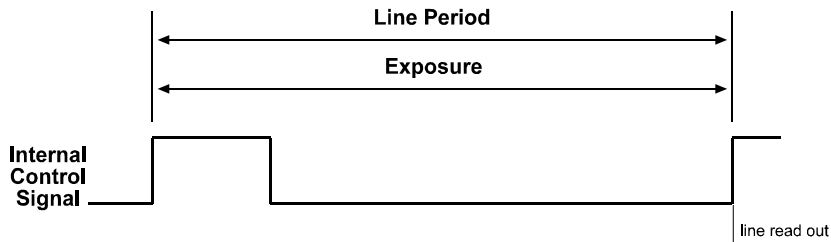

Figure 3-6: Free-run, Edge-controlled Mode
- In **free-run edge-controlled mode**, the pixels are exposed and charge is accumulated over the full line period (from rising edge to rising edge of the internal control signal). The falling edge of the control signal is irrelevant. The lines are read out and transferred on the rising edge of the internal control signal (see Figure 3-6). The line period is determined by the setting for the line period parameter.